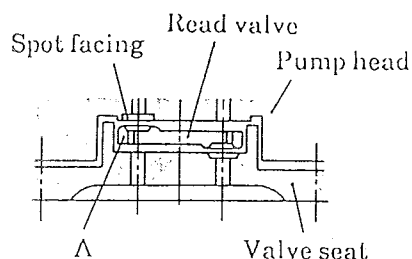

Fig.2
③ Match the pump head and the lead valve so that the protruding section of the lead valve enters the notch in the pump head, as shown in Figure 2.
④ After assembling the pump body, blow in air from the pump head suction side (IN) and confirm that air circulates normally. If the air circulation is normal, fix the pump head to the bracket by fastening the four machine screws.